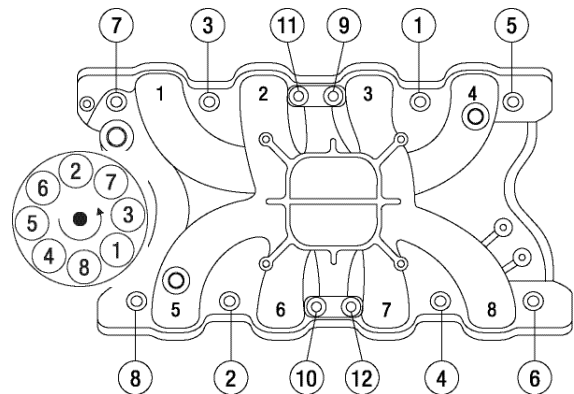

Figure 3 - 351-M/400 Ford Torque Sequence
5. Install the intake manifold and hold-down bolts. Torque all of the manifold bolts in two steps by the sequence shown in Figure 3 to 25 ft/lbs. For ease of installation, we recommend Intake Manifold Bolt Kit #8574.